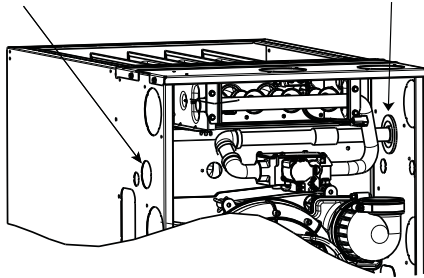

Fig. 32 – Gas Entry
Gas entry can be from left or right side, or top panel. See Figs. 32 and 33.
For direct vent (2-pipe) applications, the knockout for the gas pipe must be sealed to prevent air leakage. Remove the knockout, install the grommet in the knockout, then insert the gas pipe. The grommet is included in the loose parts bag. See Fig. 32.
5. Fasten the external electrical box to the furnace casing using two (2) sheet metal screws.
11. Connect field power and neutral leads to furnace power leads inside the external electrical box as shown in Fig. 32.